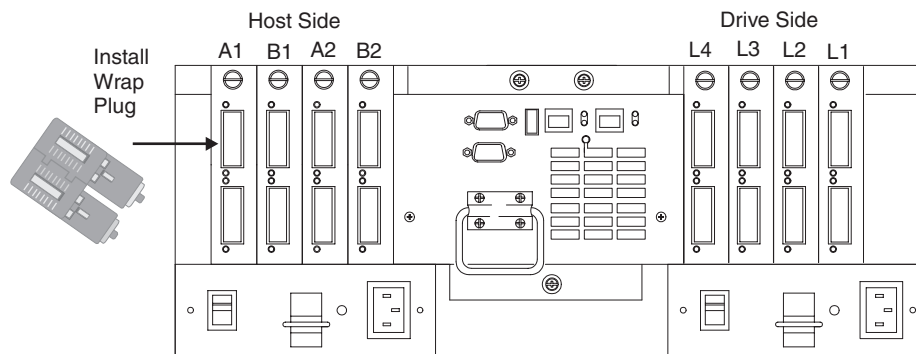

Figure 130. Install wrap plug to GBIC in mini hub on controller A
- b. For a Type 3552 or 1742 controller, install a wrap plug to the GBIC in the mini hub on controller A. See Figure 130 on page 290.